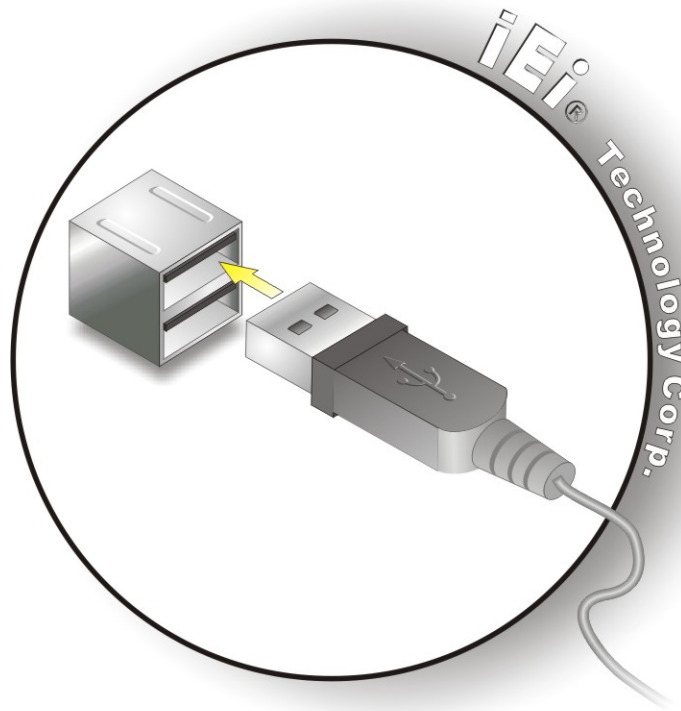

Figure 4-26: USB Device Connection
Step 2: Align the connectors. Align the USB device connector with one of the connectors on the bottom panel. See **Figure 4-26**.